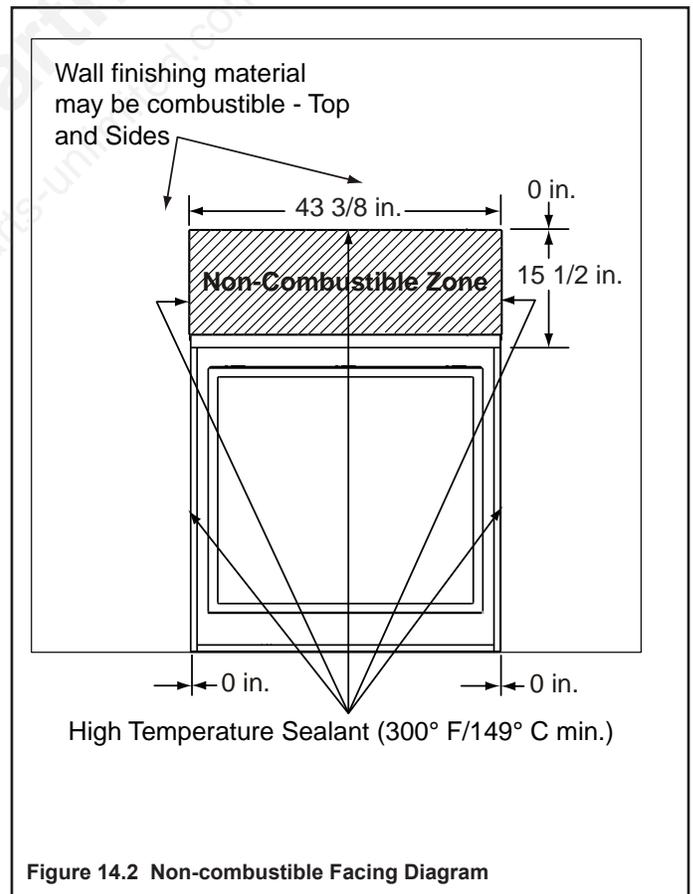

Figure 14.2 Non-combustible Facing Diagram
- Locate and remove four screws holding the upper to the firebox (see Figure 14.2, #2).
- The appliance is shipped with door templates attached. The wall material should go behind the templates and butt up to the edge of the appliance. Refer to Figure 14.2.